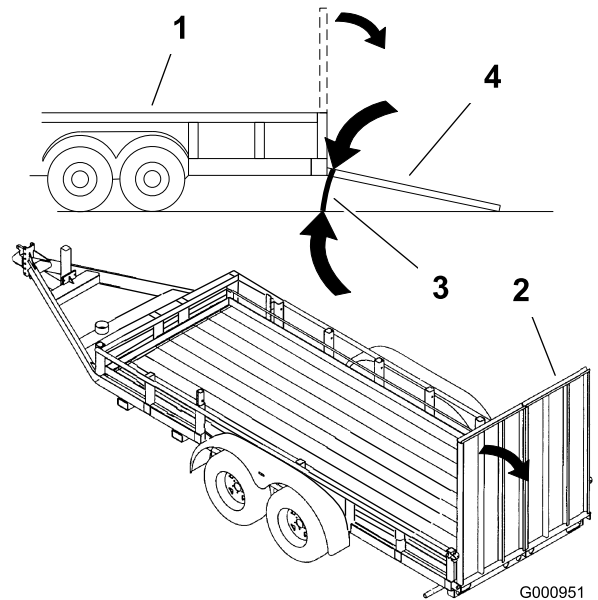

Figure 23
- Use 1 full-width ramp that is wide enough to extend beyond the rear tires is recommended instead of individual ramps for each side of the machine (Figure 23). The platform, when down and locked into position, must extend back between the rear wheels and serves as a stop for tipping backward. Having a full-width ramp provides a surface for the platform to contact if the machine starts to tip backward. With the platform up, a full-width ramp provides a surface to walk on behind the machine.
- The ramp should be long enough so that the angles do not exceed 15 degrees (Figure 23). A steeper angle may cause tine components to get caught, as the machine moves from ramp to trailer or truck. A steeper angle may also cause the machine to tip backward. If loading on or near a slope, position the trailer or truck so it is on the down side of the slope and the ramp extends up the slope. This will minimize the ramp angle. The trailer or truck should be as level as possible.